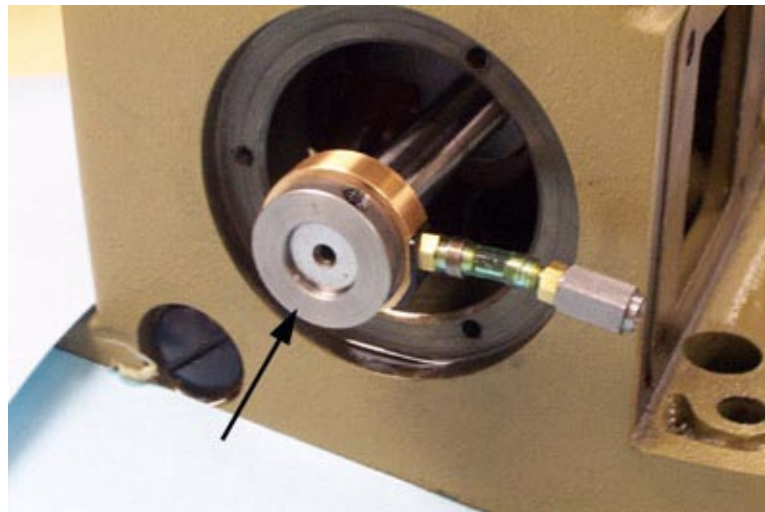

Fig 6
- 2) Install pump onto crankshaft, with hub side, with screws, to the outside. Carefully bend over the tubing and push the pump all the way onto the crankshaft and into the casting. (fig 6).